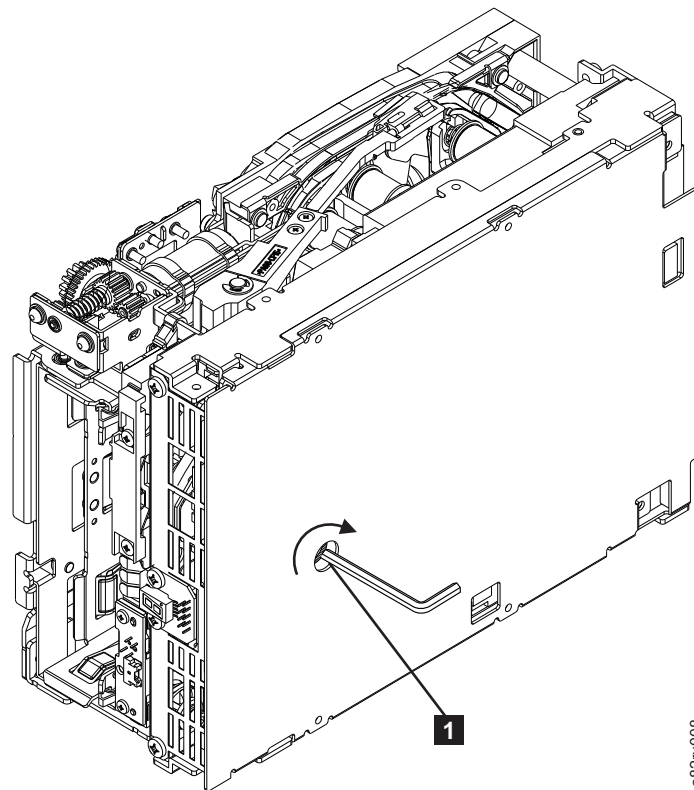

Figure E-9. Using hex wrench to rewind tape into cartridge
7. From the bottom of the drive, locate the access hole (**1** in Figure E-9) in the bottom cover. Insert a 2.5 mm offset hex wrench through the bottom cover access hole and into the reel motor axle. begin spooling tape back into the cartridge by turning the hex wrench clockwise.